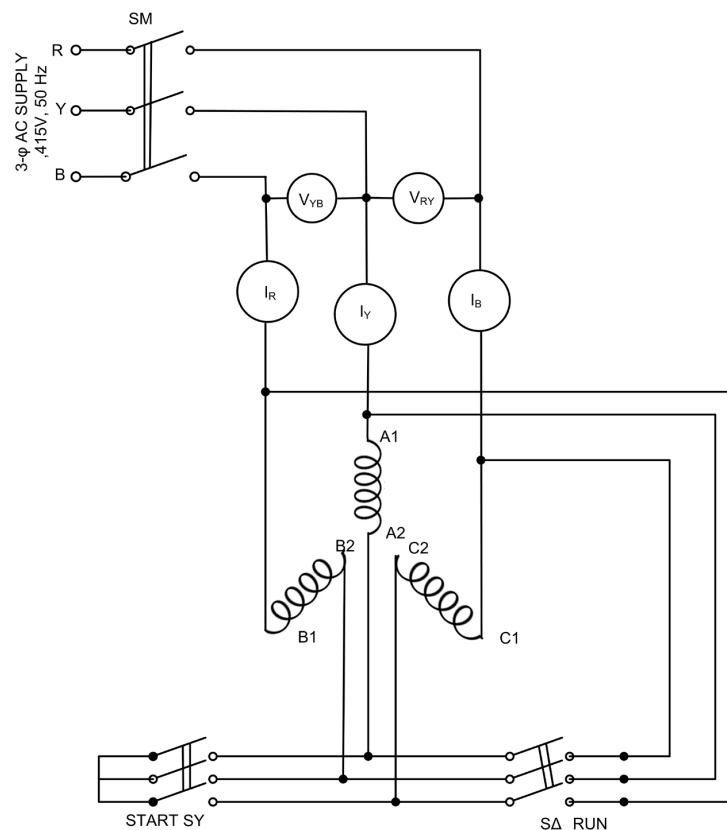

Fig. P6.1: Circuit diagram of Manual Star/Delta starter
1. Connect the circuit as shown in Fig. P6.1.